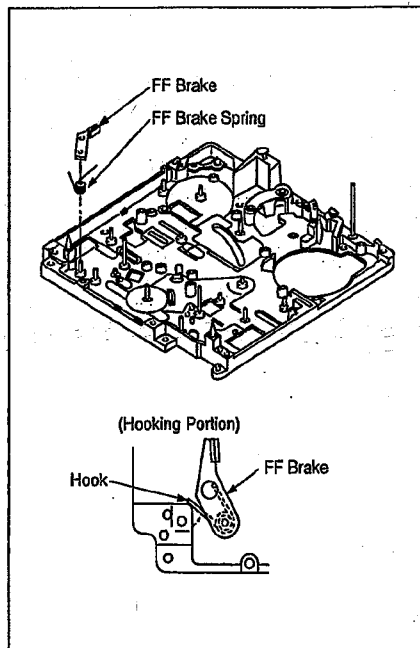

Fig. M17
- Fig. M17 Remove the FF Brake and FF Brake Spring.